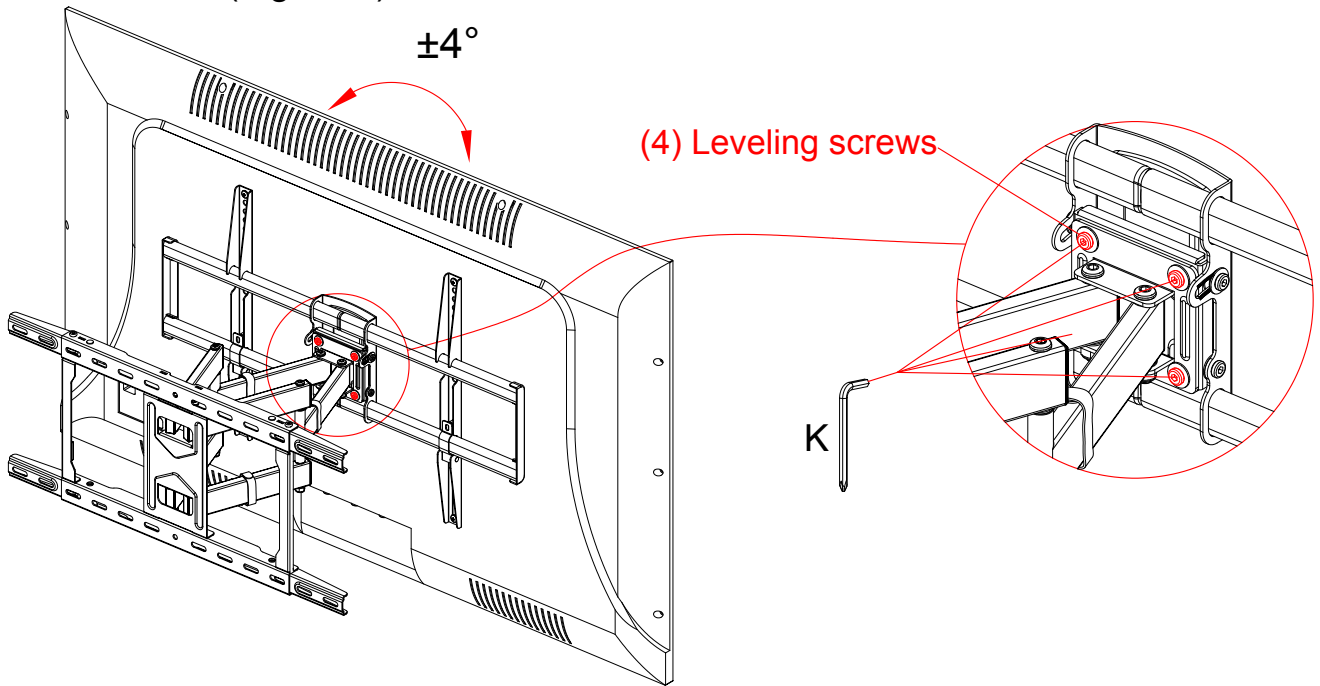

Figure 8
Step 7: Make sure the TV unit is horizontal, you can adjust the TV plate a little bit (+4/-4 degrees) to level the TV, by loosening or tightening (4) leveling screws with Allen key (K). When it is at your desired position, tighten the 4 leveling screws. (Figure 8)